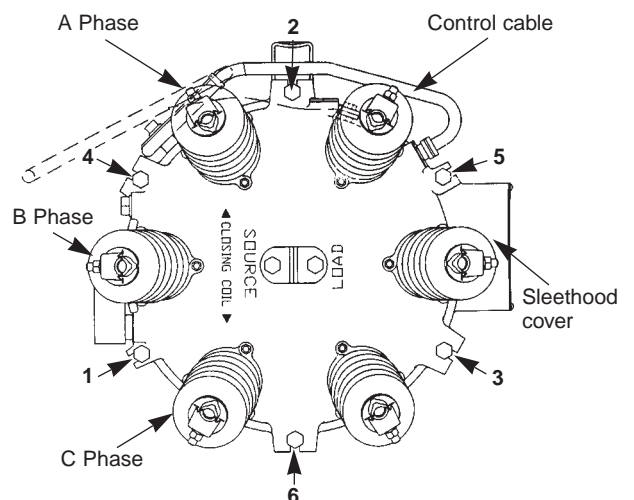

Figure 21.
19. Tighten the six head bolts and washers on the head assembly of the tank in an alternating pattern according to the sequence shown in Figure 21. Torque each head bolt to 33-54 Nm (25-40 ft. lbs.).